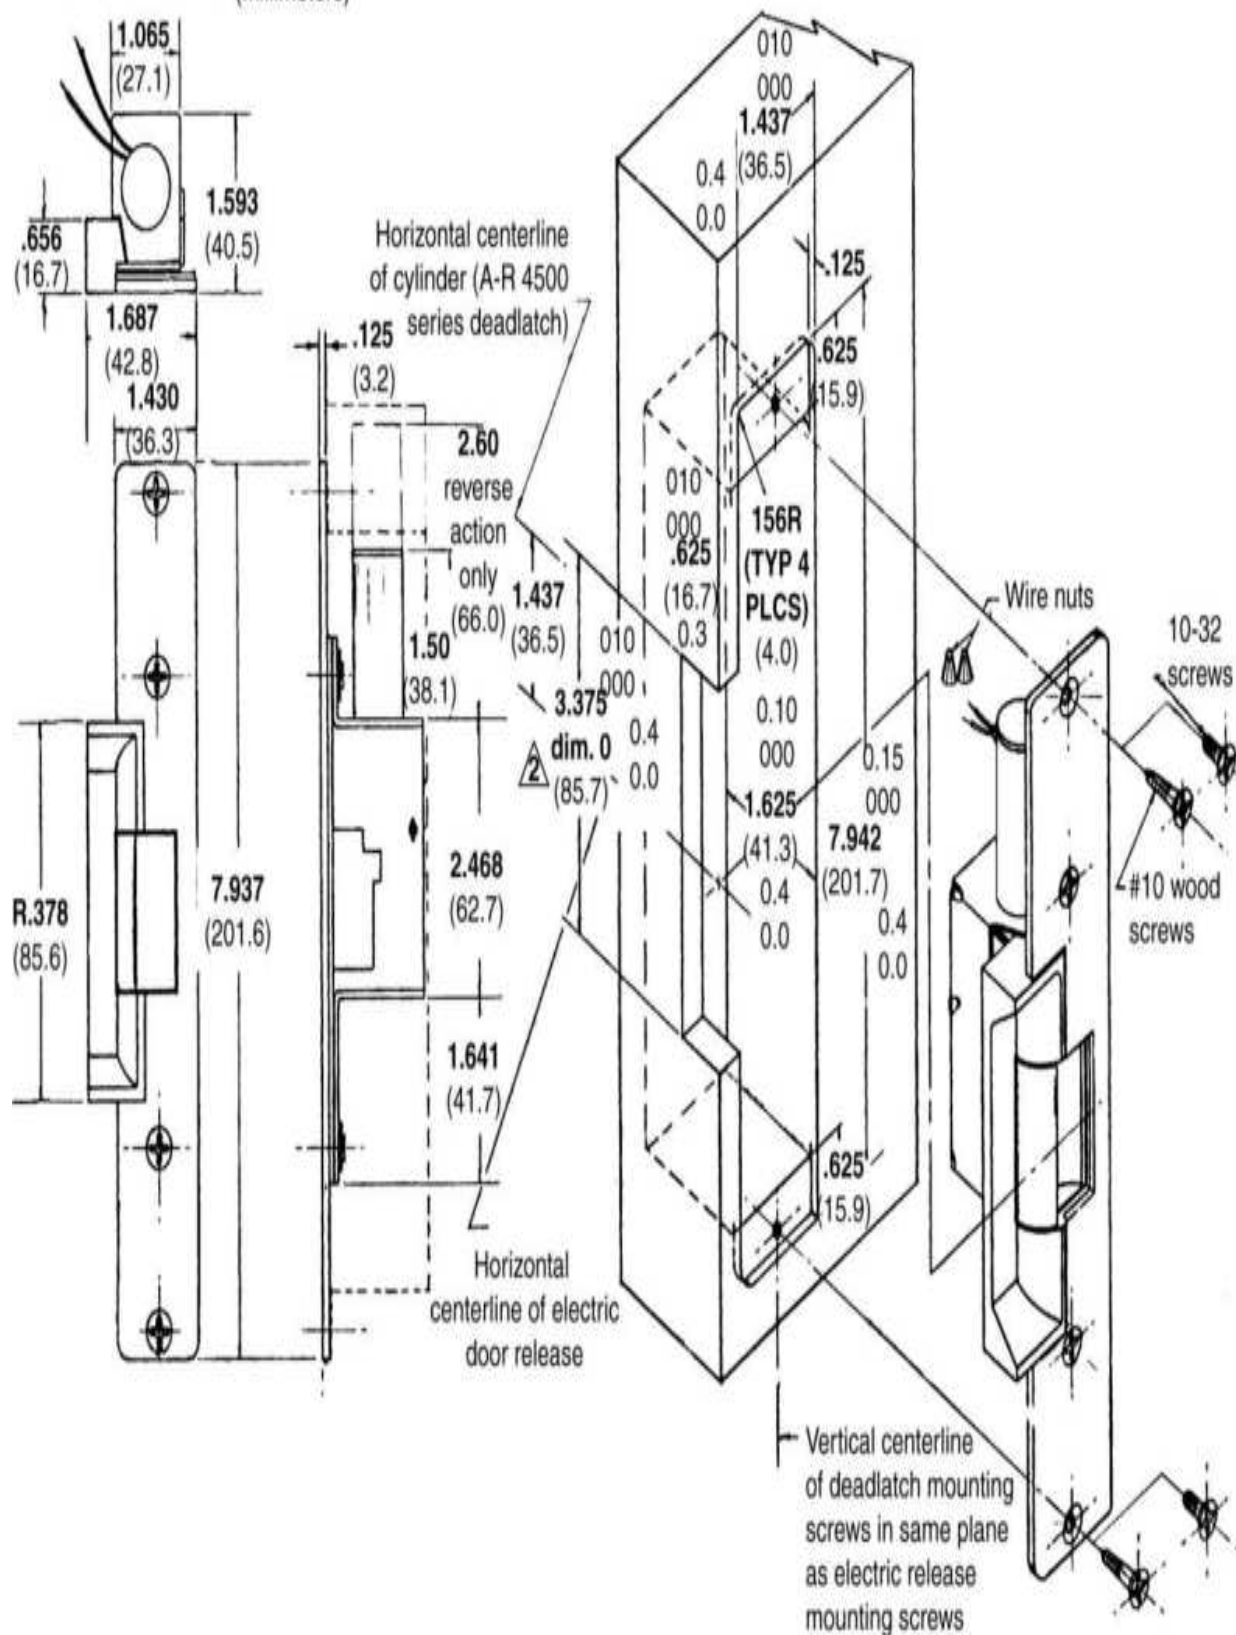

**Figure 19.3** Dimensions and installation details for unit to be mounted in a wood frame. (*Adams Rite Mfg. Co.*)
1. Prepare the jamb to the dimensions shown in Fig. 19.3 .
Figure 19.3 also shows the dimensions of the 7510 electrical door release unit.